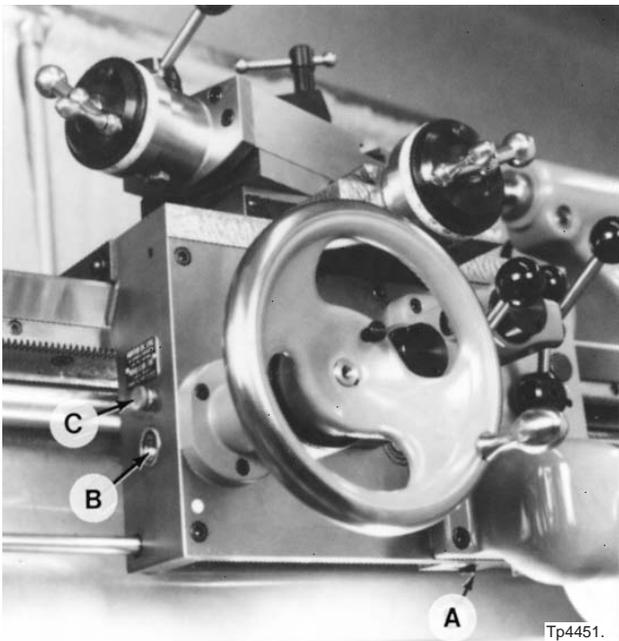

Figure 3.45 - Magnetic Drain Plug
12. Place a pan capable of holding one pint of liquid under drain plug "A", Figure 3.45 .
The carriage apron oil reservoir is full when sight window “B”, Figure 3.45, is completely filled with oil.
- a) Remove cap “C”, Figure 3.45 .